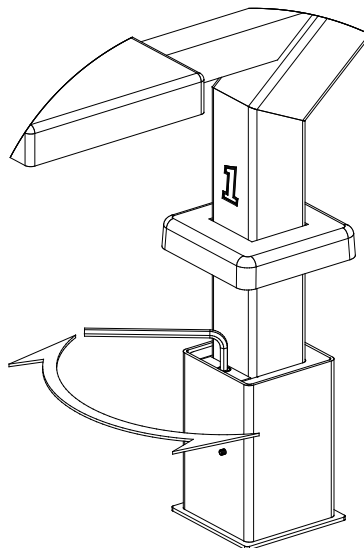

FIGURE 3
1. Loosen bolt using a ¼" ALLEN wrench, turning wrench in a counter-clockwise direction as seen from looking down. See **FIGURE 3**.
6. To remove starting platform, lift escutcheon, insert ALLEN wrench into anchor bolt and turn counter-clockwise two (2) full turns. Lift and remove starting platform. DO NOT continue to loosen anchor bolt or remove anchor bolt for any reason.